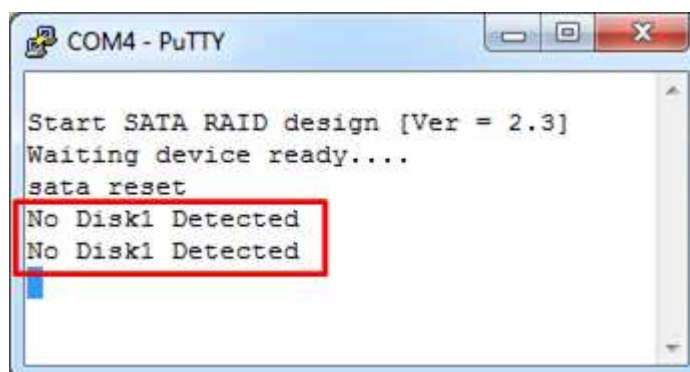

Figure 2-9 The error message when disk number#1 has problem
- If any disk cannot link up and initialize, error message will be displayed to report error disk number, as shown in Figure 2-9. The disk number can be referred to CN number directly. For example, Disk1 means SATA device at CN#1.